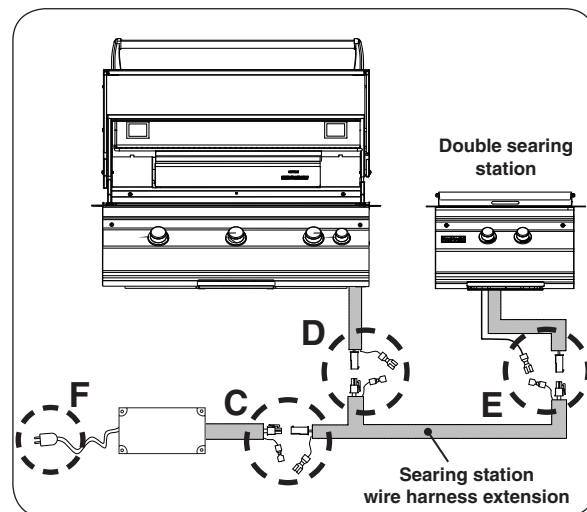

Fig. 17-3 Connect searing station to grill setup
- Locate the end of the searing station wire extension that has two molex and ground connections. Connect the extension (plug) molex connection to the power supply (receptacle) molex connection and ground wires (See Fig. 17-3, **C**).
- Connect the extension (receptacle) molex to the grill (plug) molex connection and ground wires (See Fig. 17-3, **D**).
- Connect the opposite end of the extension to the searing station as shown in Fig. 17-3, **E** (molex and ground wire connections).
- Reconnect the power cord (see Fig. 17-3, **F**).